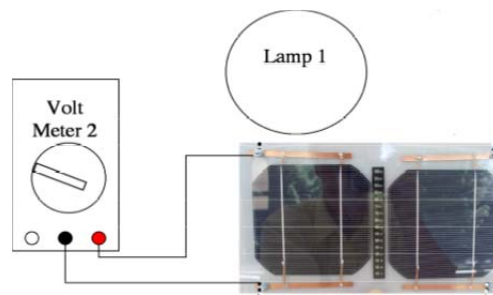

Fig. 2.2: Measuring open circuit voltage
3. Set the meter dial to the 2 VDC setting, that is the “2” setting on the left side of the dial, and set the cables as shown in Fig. 2.2. With the distance the same, **measure and record** the open circuit voltage in the table provided on the last page. (Open Circuit means that the circuit is incomplete (open) and therefore no current can flow.)